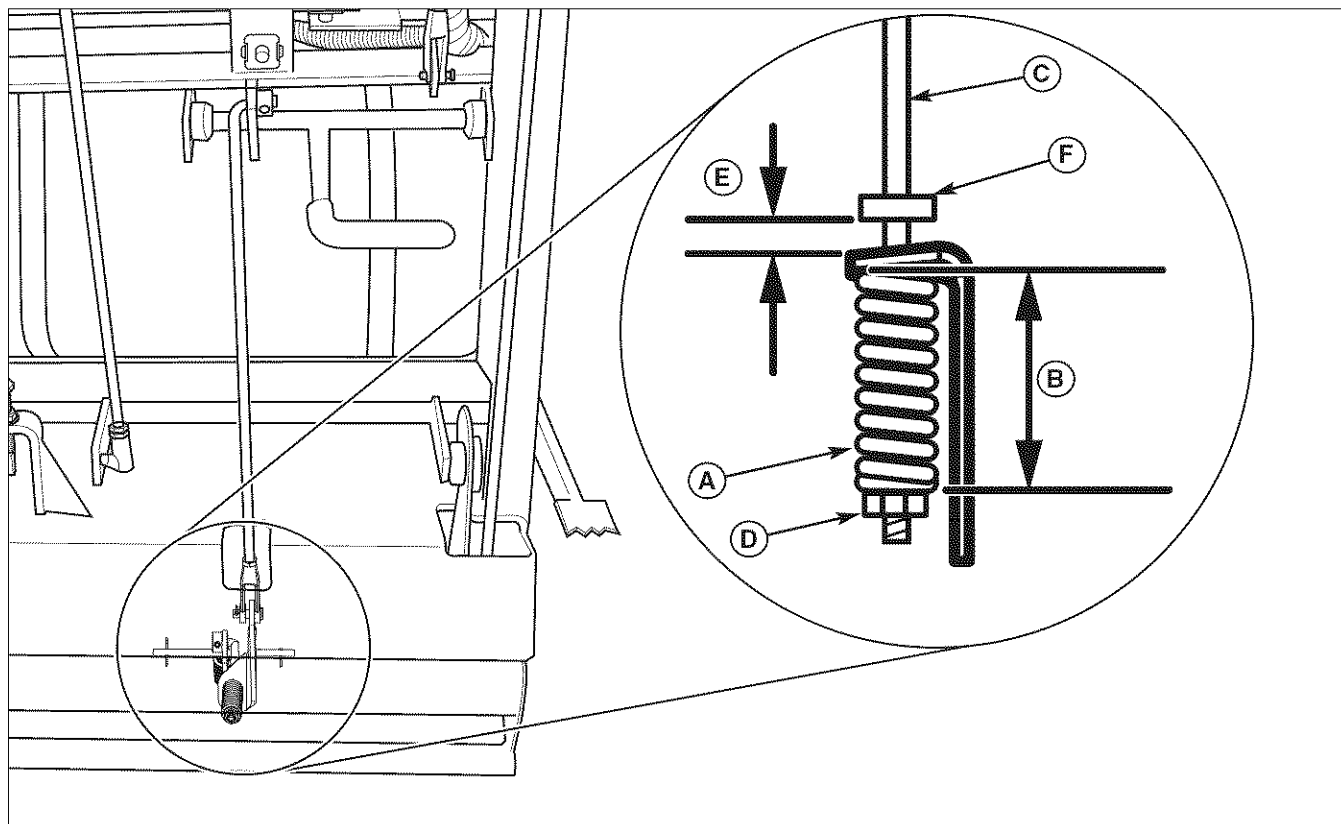

Figure 31. Parking Brake Adjustment
2. Locate the brake spring (A, Figure 31) underneath the rear of the machine.
4. Measure the distance between the back of the brake pivot link (G) and the front edge of the set collar (F). The measurement should be 1/8" (0,32 cm). If not, position the set collar until the measurement equals 1/8" (0,32 cm).